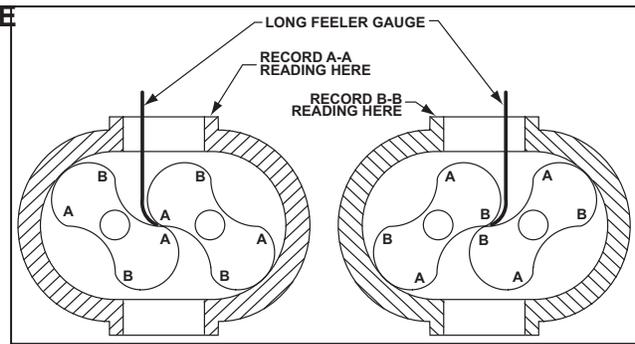

Figure 9 - Rotor Interlobe Clearance
18. The outer gear shell is fastened to the inner hub with four cap screws and located with two dowel pins. Adding or removing shims between the gear shell and the inner hub moves the gear shell axially. The helix causes the gear to rotate which changes the clearance between rotor lobes. Adding .030" (.76 mm) shim thickness will change the rotor lobe clearance by approximately .009" (.23 mm). The timing shim is formed from a number of .003" (.08 mm) shims, which have been laminated together. They are easily peeled off as necessary. Use feeler gauges to check the clearance at AA (right hand reading) and BB (left hand reading). See Figure 9. The clearances should be adjusted so they are as equal between all lobes as possible. Usually within .002" (.05 mm) to .003" (.08 mm). For best results use feeler gauges no larger than .006" (.15 mm).